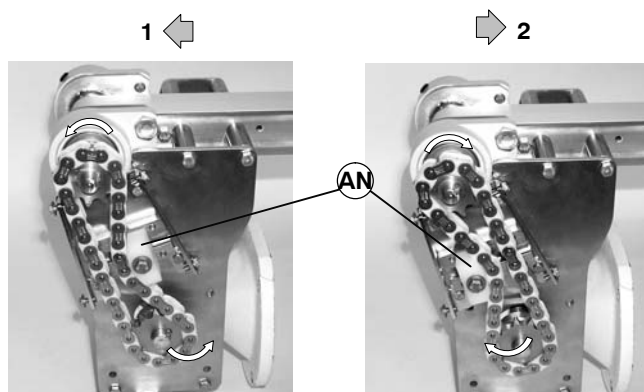

Figure 13
2. Depending on conveyor belt travel (direction 1 or 2 of Figure 13), locate timing chain tensioner (AN) as shown. Do not tighten tensioner screw.